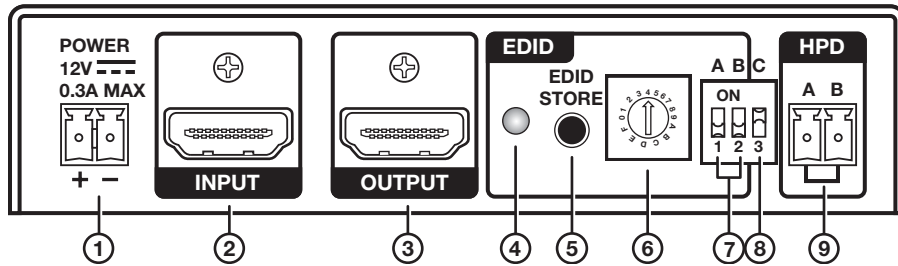

Figure 4. EDID 101H Rear Panel
- ④ **EDID Store LED** – One bi-color LED lights green when power is connected. It flashes amber when reading and storing EDID from a connected output device, returning to green when recording is complete.
- ⑤ **EDID Store button** – One recessed push button initiates both reading and storing EDID. With both A and B DIP switches set off (down), press the store button to read the EDID of a device connected to the output. The EDID is then stored to a user slot selected by the rotary switch. Up to 15 EDID files can be stored.
- ⑥ **EDID selection rotary wwitch** – One 16-position rotary switch combined with DIP switches A and B (see figure 4, ⑦ on page 5) provide a choice of user stored or pre-programmed EDID (see **EDID 101H Configuration** on page 11).
- ⑦ **DIP switch A and B** – Two 2-position DIP switches, A and B, are used with the rotary switch to select from pre-programmed HDMI and DVI EDID, or to allow recording a custom EDID from a connected display. The “off” position is down.
- ⑧ **DIP Switch C** – DIP switch C enables (default: up) or disables (down) HDCP authorization.
- ⑨ **Hot Plug Detect (HPD)** – One 2-pole 3.5 mm captive screw connector used to manually toggle HPD on the HDMI input. When the two pins (A and B) are shorted together, an HPD event is initiated on the HDMI input.